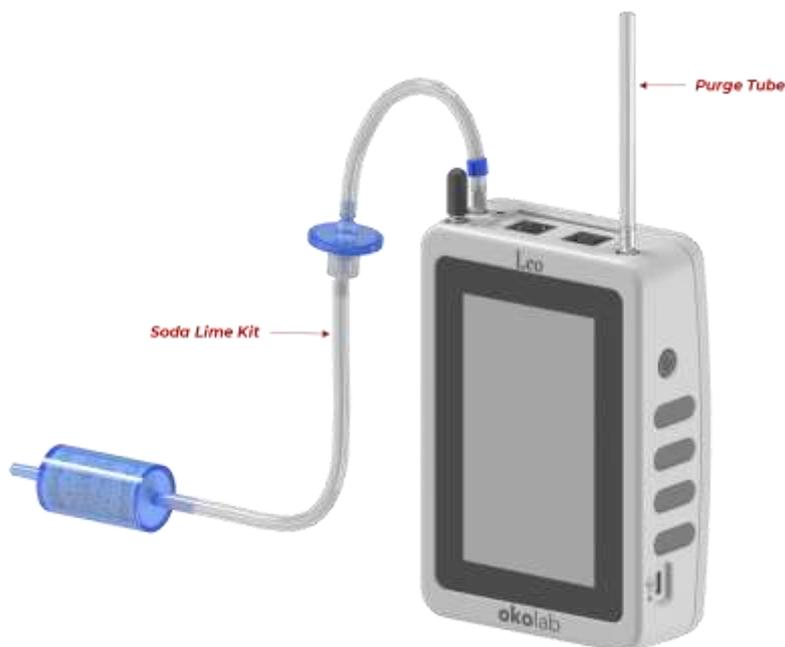

Figure 22. CO2 Zero reset using the Soda Lime Kit.
2. **CO2:** This Zero Reset procedure involves utilizing the provided **Soda Lime Kit** for resetting the CO2 sensor drift. In order to proceed with this method, connect the **Soda Lime Kit** to the pump gas input port on LEO 2.0 (**IN**) (Figure 22), and follow the on-screen instructions.